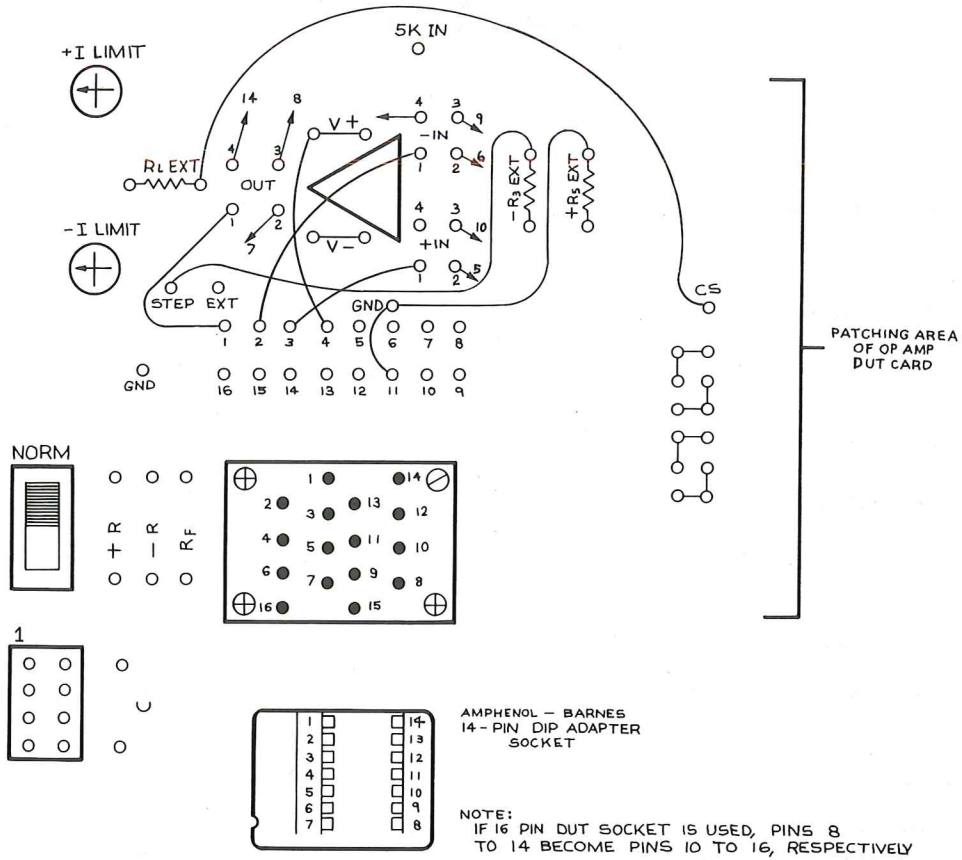

Figure 14. Test setup for measuring output current sink.
- Place patch cords as shown in Fig. 14.